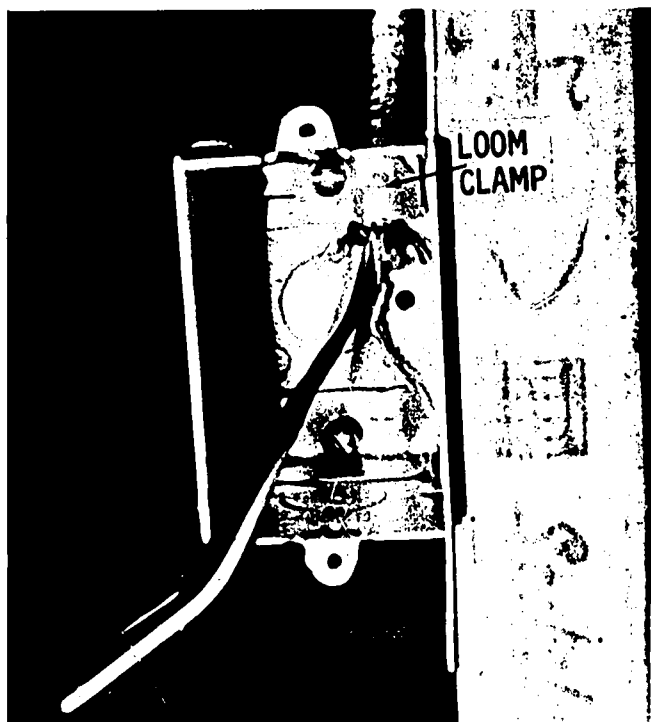

Fig. 53-16. Fastening Romex Cable Under Loom Clamp
5. Fasten the wire to each outlet box by running it through a hole and clamping the sheathed cable under a loom clamp. See Fig. 53-16.